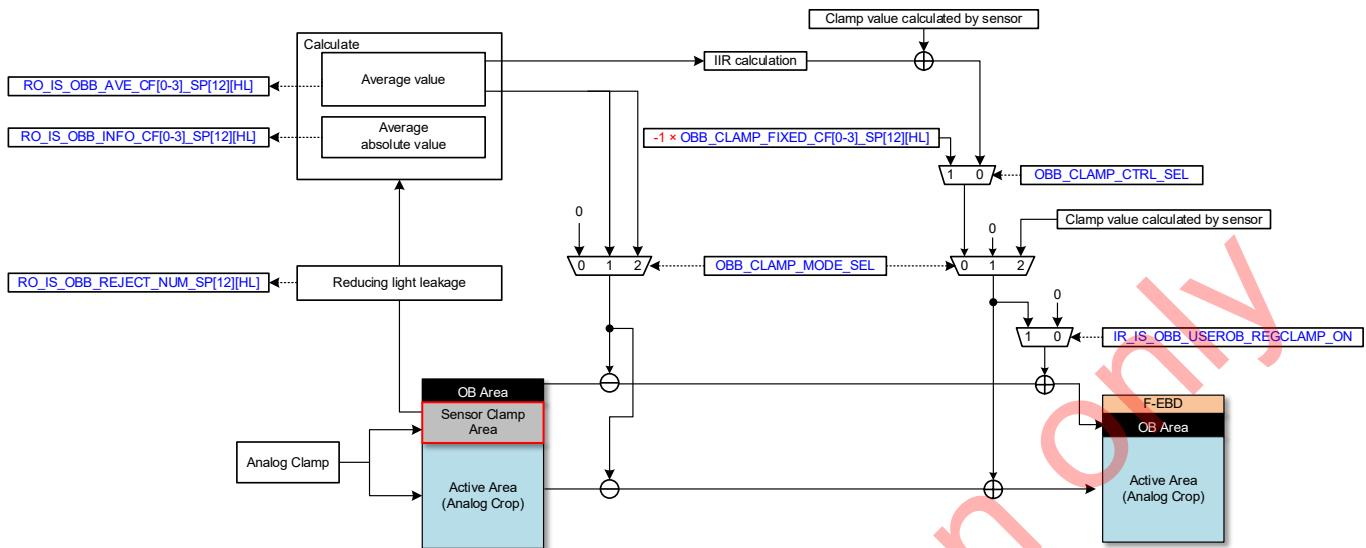

Figure 5-46 Overview of the Digital Clamp Function
"Figure 5-46" illustrates an overview of the Digital Clamp function.
The Digital Clamp function reads out the pixels in the Sensor Clamp Area (the red box in "Figure 5-46"), which is a light-shielded physical pixel area. The pixels in the Sensor Clamp Area are the data after the black level has been compensated for by the Analog Clamp function. After having taken measures against light leakage into the Sensor Clamp Area, which will be described later in this document, the sensor calculates the average value of the pixel levels in the Sensor Clamp Area.
- (A): The value obtained by performing IIR calculation on the sensor clamp value. See "IIR Calculation" in "Figure 5-46."
- (B): The value calculated by the sensor corresponding to temperature, gain and shutter time. See "Clamp value calculated by sensor" in "Figure 5-46."
- (C): The value assigned to the OBB_CLAMP_FIXED_x_y (x = CF0, CF1, CF2, CF3)(y = SP1H, SP1L, SP2H, SP2L) registers.